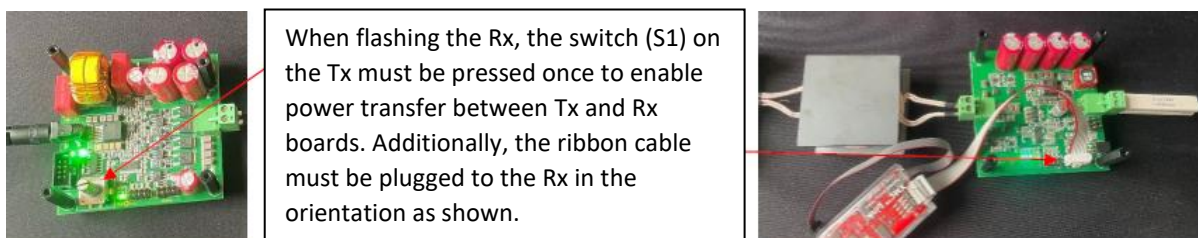

Figure 9: Hardware Set-up before flashing the Rx board.
- To flash the Rx board, the same hardware set up as the Tx board must be used. The set-up is as shown below in Figure 9. The XMC debugger with flat ribbon cable must be removed from Tx board and connected to the Rx board, inverted as indicated by the red arrow on the right in the Figure 9 below.
- Once the hardware is setup, then the Tx board should be powered on by pressing the switch S1, on Tx board as shown in Figure 9. This enables the power transfer between Tx and Rx so that the Rx board will be powered up before it can be flashed with software.